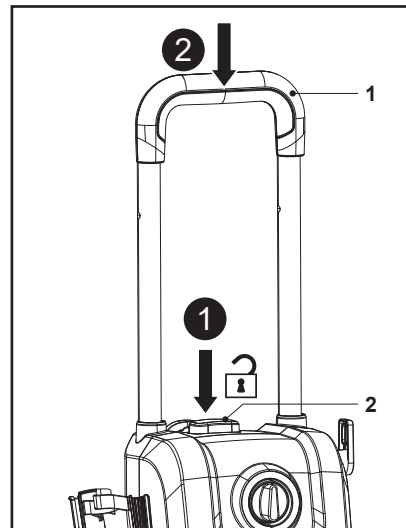

Fig. 14
2. Press and hold the handle lock button (2), then press the transport handle (1) to retract it (Fig. 14).